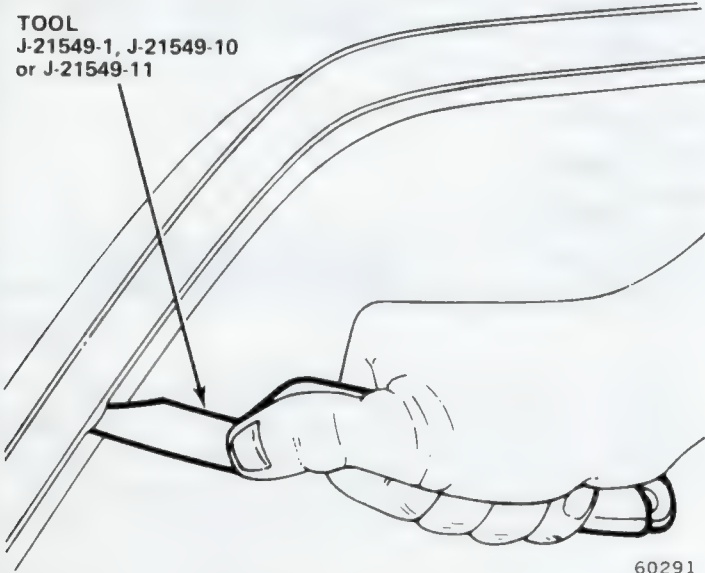

Fig.3K-17 Reveal Moulding Removal—Typical
- (1) Remove side reveal mouldings (before upper and lower mouldings) using Reveal Moulding Remover Tool J-21549-1, J-21549-10, or J-21549-11 as shown in figure 3K-17.